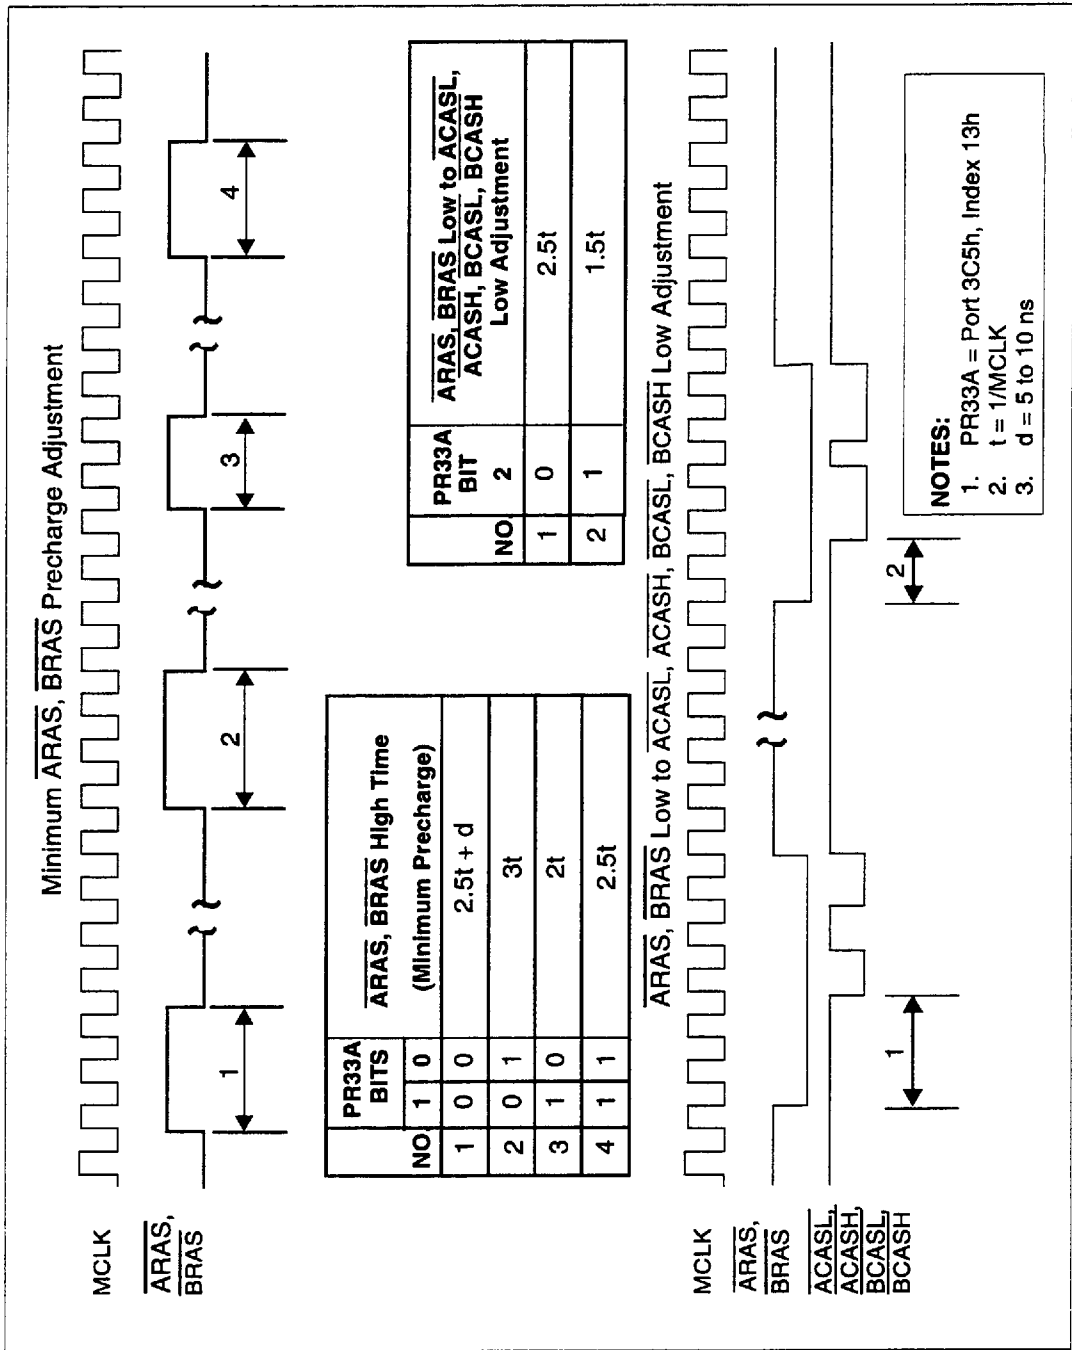

FIGURE 30-6. DRAM TIMING ADJUSTMENT
- DRAM Timing Adjustment (Figure 30-6)